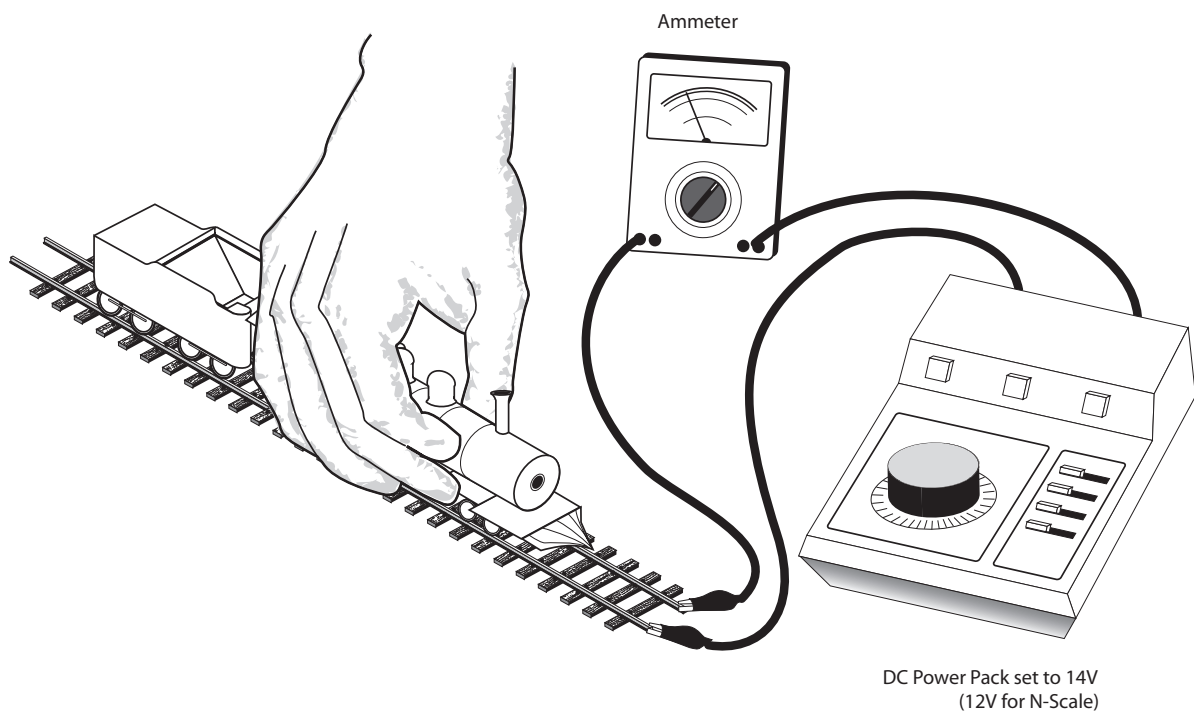

Figure 1 - Testing the Locomotive's Stall Current
2. Connect a DC ammeter in series with one of the track feeders as shown in Figure 1. If your power pack has built in meters, they may be used for this purpose.